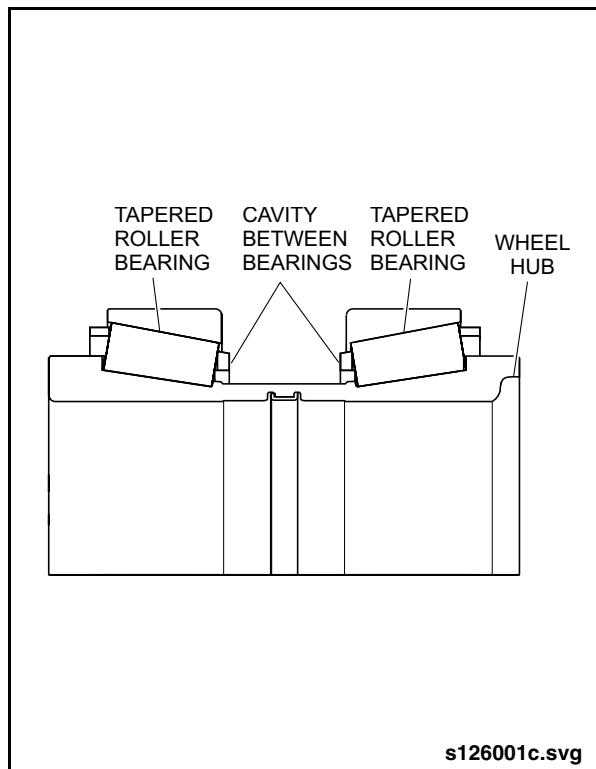

Fig. 2-24: Greasing Hub Unit Wheel Bearings
1. Apply high-temperature grease on the tapered roller bearings. See "Fig. 2-24: Greasing Hub Unit Wheel Bearings" on page 27. Refer to "Fluid & Lubrication Guide" in the Preventive Maintenance Section of this manual for a list of approved greases.